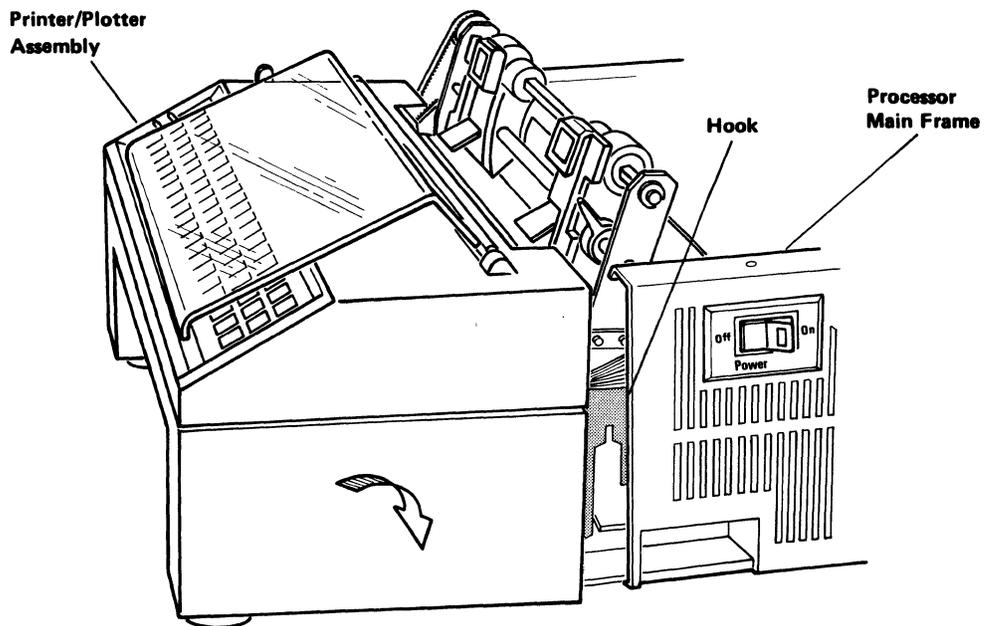

Figure 4-30. Printer/Plotter-Replacement.
9. Holding the printer/plotter by the front, lift the assembly and push forward then down until the hooks latch onto the studs on the processor unit. Check that the cables are not crimped between the assemblies (See Figure 4-30).